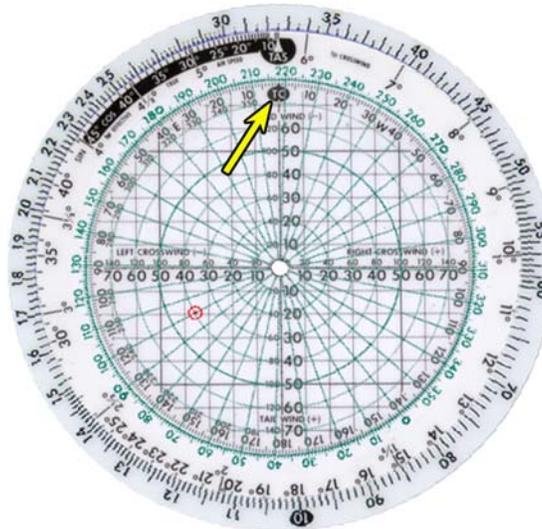

Figure 4.5-14 Preflight Wind Calculation 3
- Rotate the inner wheel to set the desired TC (218°) over the TC arrow. NOTE: at this point, check your estimate. Is it a left tailwind? If not, recheck the preceding steps (Figure 4.5-14).